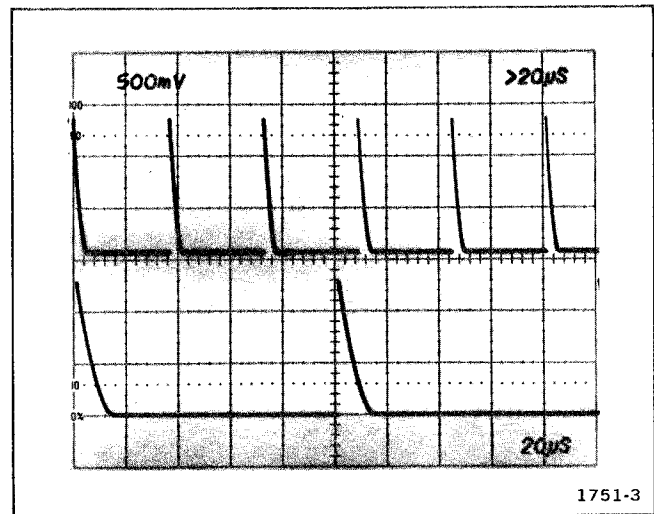

Fig. 5-14. Variable Time/Division range.
i. Check—with VARIABLE control released and turned fully counterclockwise, at least two Delayed sweep markers (bottom) to one Delaying sweep marker is visible. Refer to Fig. 5-14.